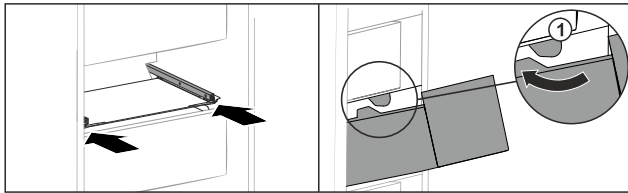

Fig. 221
- ▶ Guide drawer around the stoppers Fig. 221 (1).